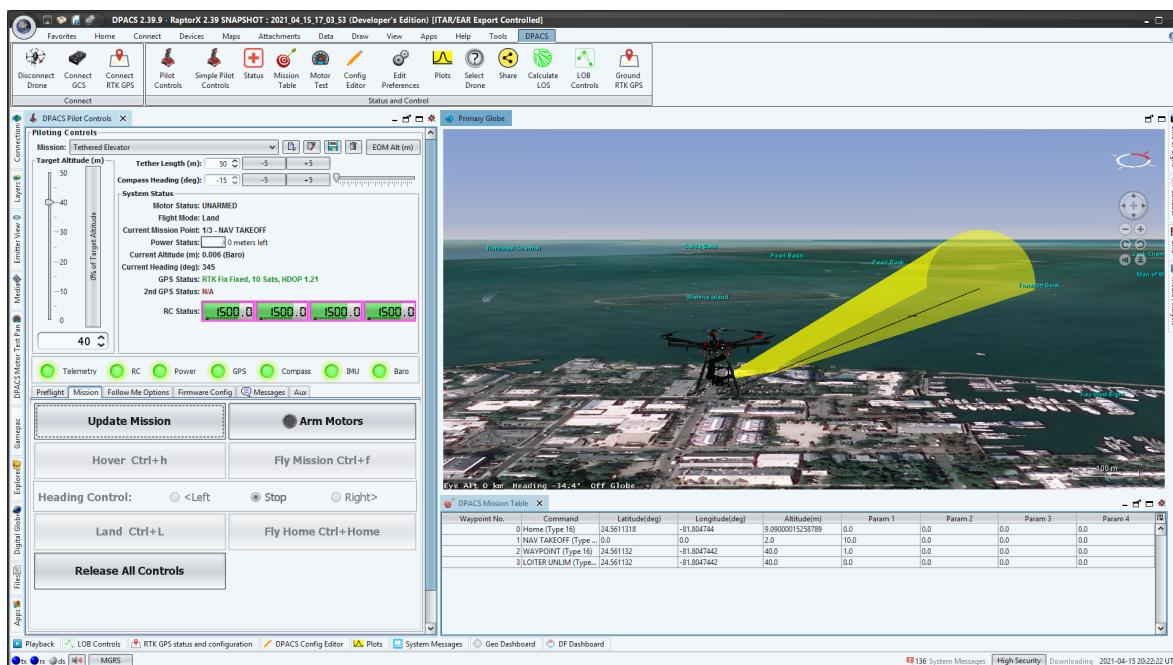

Figure 33 - Mission Table shown after updating the mission
4. The tethered elevator mission can be executed by simply specifying the altitude with the “Target Altitude” slide or typing in a specific value then clicking on the “Update Mission” button. You should see 4 mission commands show up in the “Mission Table” at the bottom of the screen as shown in Figure 33 with the last one being “LOITER UNLIMITED”.